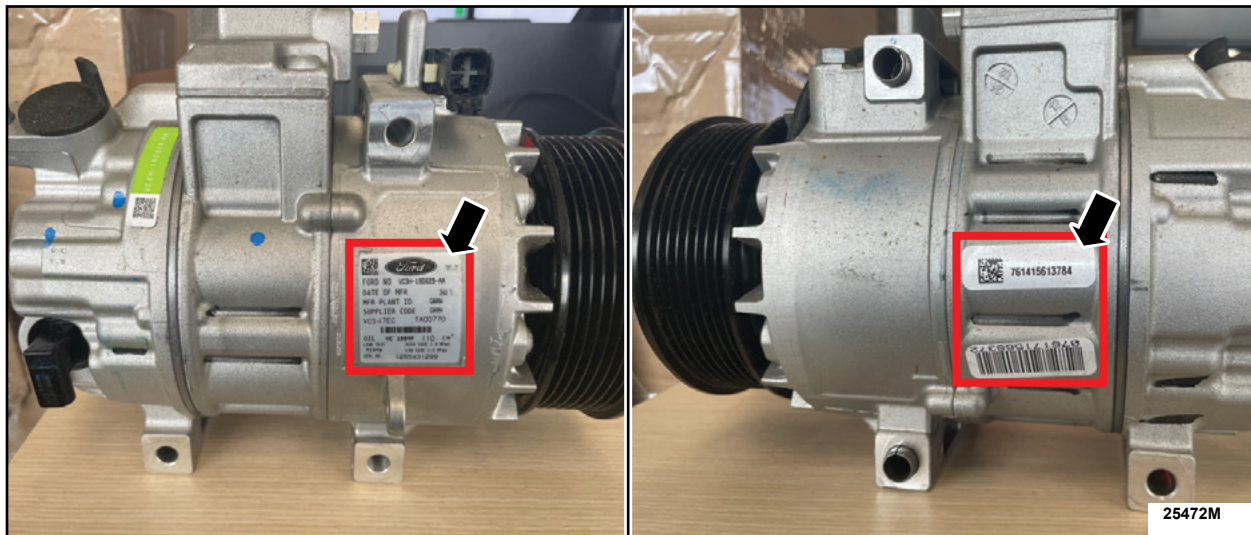

FIGURE 15
2. Take a picture of the 3 tags on the original A/C compressor and submit them with the FSA claim. See Figure 15.